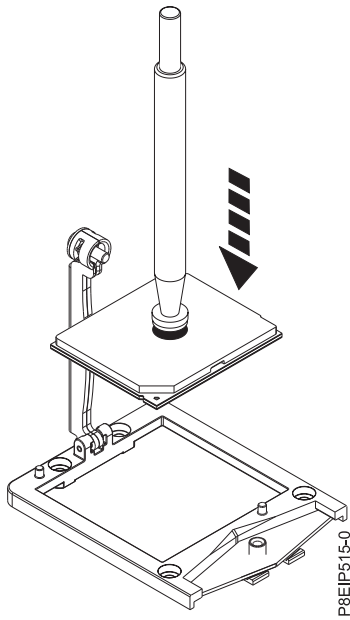

Figure 67. Lowering the processor into the socket
- a. Lower the pen and system processor module onto the socket as shown in Figure 67 on page 55. Align the beveled corner of the processor with the beveled corner on the socket. Use care to lower the tool evenly without tilting the processor.